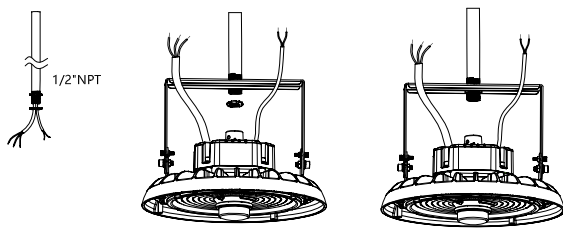

Figure 6
1. Unscrew the nuts on 1/2" stem (not provided) and insert it into the hole of RWUX-SMK (figure 6)